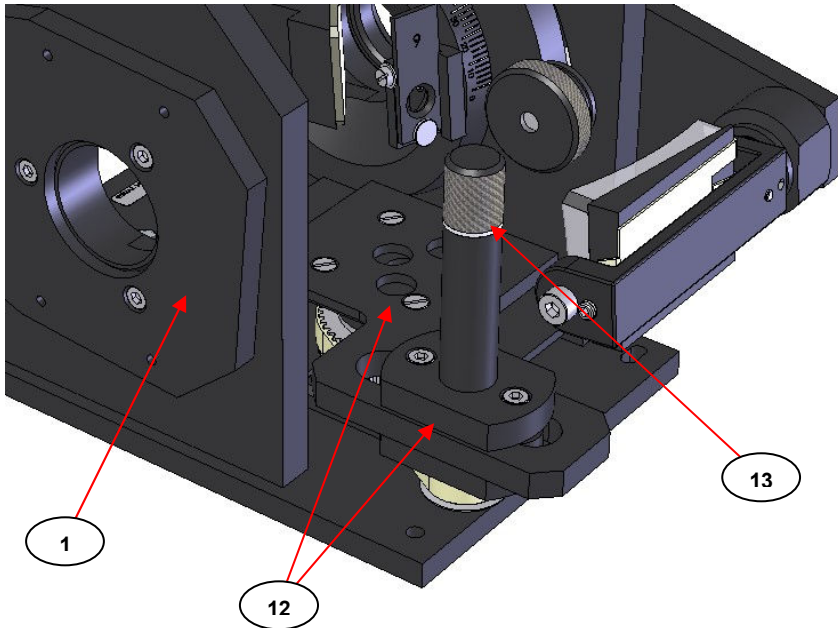

Fig 16. The Height Adjustment Mechanism of the Monolayer Grazing Angle Accessory
For any sampling it is most important to achieve a consistent focal spot of light position for any incident angle of light to be projected at the sample surface. Depending on the thickness of a sample to be measured, and if there are any differences between the reference mirror (16) and the sample thickness itself when placed on the sampling platform surface itself, the actual **sample surface level** for correct focal and spatial light positioning can be achieved from an up or down adjustment using the Height Adjustment Mechanism (12). (See Fig 16.)